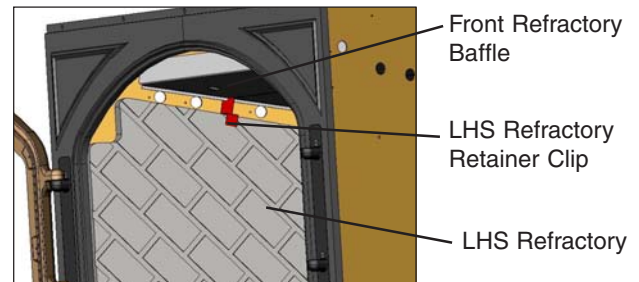

FIGURE 5 -Refractory Retainer Clip
Step 3. Remove the left hand side Refractory Retainer Clip by pushing up slightly on the front top Refractory Baffle and sliding the clip out (see Figure 5). Remove the side Refractory (tilt the top portion inward) and lift out of the fireplace. Repeat for the right hand side Refractory if so desired. Removing both sides will enable the removal of the Secondary Air Pipe #4 and the front Refractory Baffle without having to remove the Secondary Air Pipe #3.